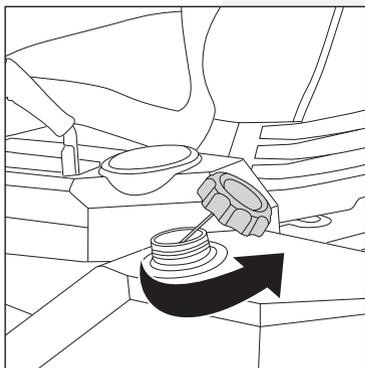

Fig. 13
2. Remove the fuel cap (Fig.13)